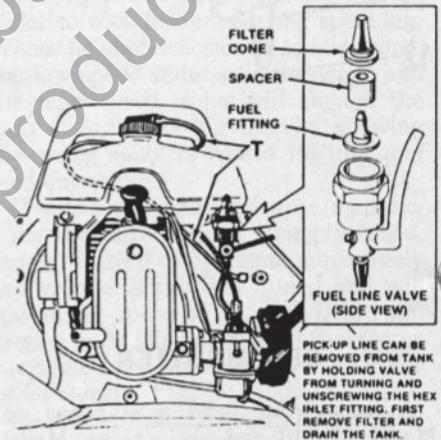

Fig. HL30-4—Drawing showing location of air pressure tube (T) to fuel tank. Fuel filter may be removed and cleaned.
Fig. HL30-3—Typical exploded view of blower on all models. Fuel pickup assembly (6) is used on models with a diaphragm-type carburetor. Fuel filter/valve (9), tube (7), pad (8) and filters (10A) are used on models with a float-type carburetor. Refer to Fig. HL30-4 for drawing of filter/valve (9).
Fuel in the fuel tank of models equipped with a float-type carburetor is pressurized by air directed from the blower volute to the fuel tank cap through pressure tube (T—Fig. HL30-4). Inadequate fuel supply may be due to a disconnected or faulty pressure tube, faulty check valve or dirty filter in fuel tank cap, or obstructed fuel filter (Fig. HL30-4). The fuel filter may be cleaned in a nonflammable solvent, but replacement is recommended.